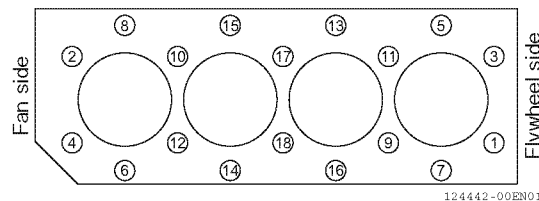

Fig.14-4
2. Loosen the cylinder head bolts following the sequence shown in Fig.14-4.